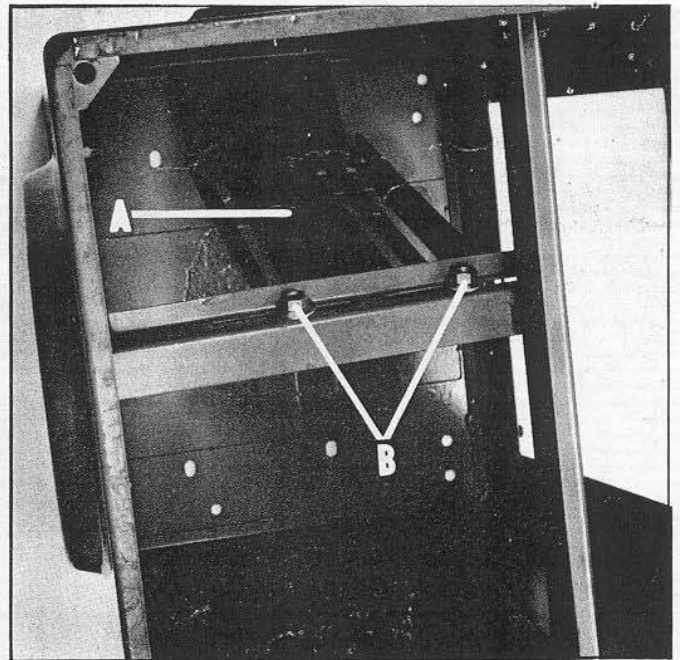

Fig. 5
2. Assemble the motor mounting plate (A) Fig. 5, using the two hex head cap screws, flat washers and nuts (B). The other end of the motor is fastened to the side of cabinet using a carriage bolt from the outside of the cabinet and a flat washer and nut on the inside.